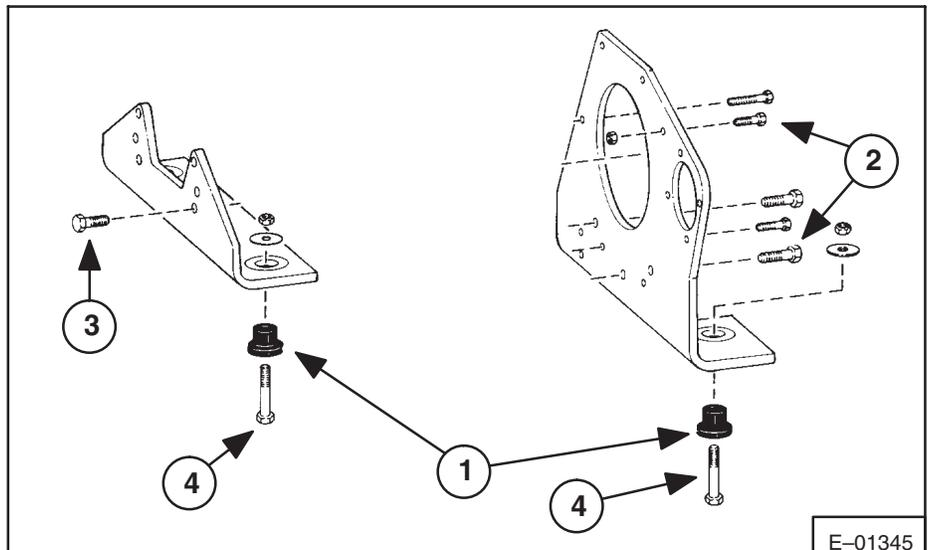

Fig. 7A-130 Engine Mounts
5. Install the four bolts (Fig. 7A-130, Item 4) and tighten to 90-100 ft.-lbs. (125-135 Nm) torque.